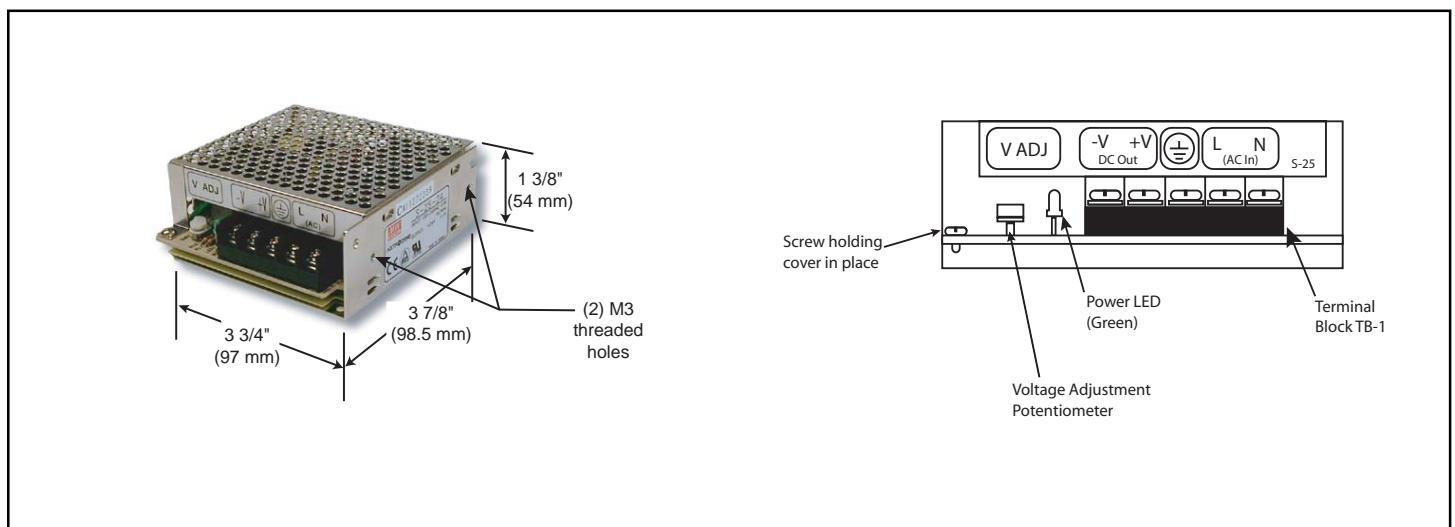

Figure 1. Catalog Number S-25-24
2. Connect supply wiring to terminal block TB1 (Figure 1, 2 or 3) as follows. Using a three-wire cord, connect the black conductor (Line) to the terminal labeled "L", connect the white conductor (Neutral) to the terminal labeled "N" and connect the green conductor (Ground) to the terminal labeled \perp .